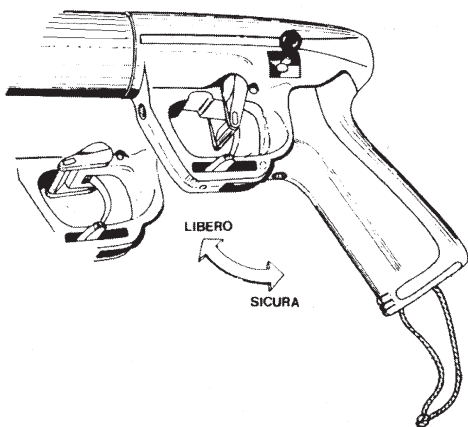

Fig. 3
- 4) Move the safety bar to the "safe" position prior to loading, by rotating it downward towards the trigger. Only when you are ready to shoot should the safety bar be moved to the "fire" position, by rotating it upward away from the trigger. The STEN speargun features a patented safety bar system which, when in the "safe" mode, mechanically blocks the trigger and prevents finger access to it. Be sure to check the operation of the safety bar periodically. With the speargun unloaded, move the safety bar to the "safe" position. In this mode the trigger should not be able to be depressed. The trigger should only be able to be depressed when the safety bar is moved to the "fire" position. Do not load or use the gun if any sign of malfunction exists (Fig. 3).
SYSTÈME DE SÉCURITÉ (Fig. 3)
Insérer le système de sécurité (Fig. 3)